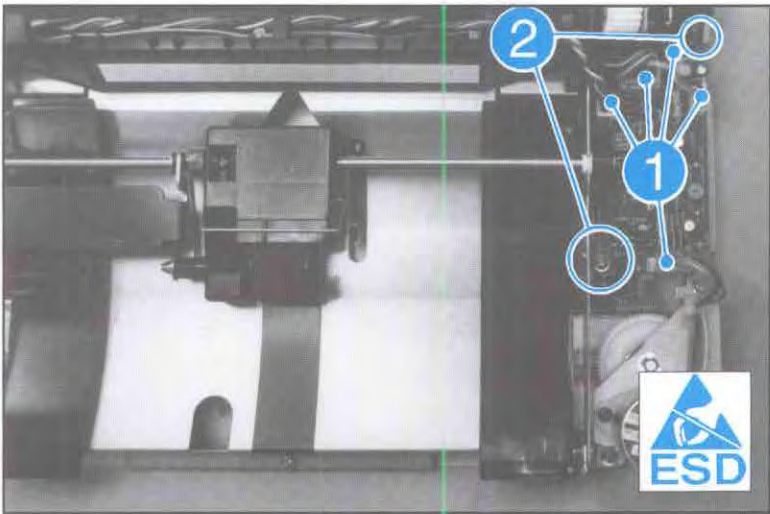

Figure 6-48. Duplex PCA
2. Unplug the (5) connectors from the Duplex PCA (see Figure 6-48, callout 1). These connectors are; J401, J402, J403, J404, and J406.
3. Remove the (2) screws securing the Duplex PCA, and remove the PCA (see Figure 6-48, callout 2).